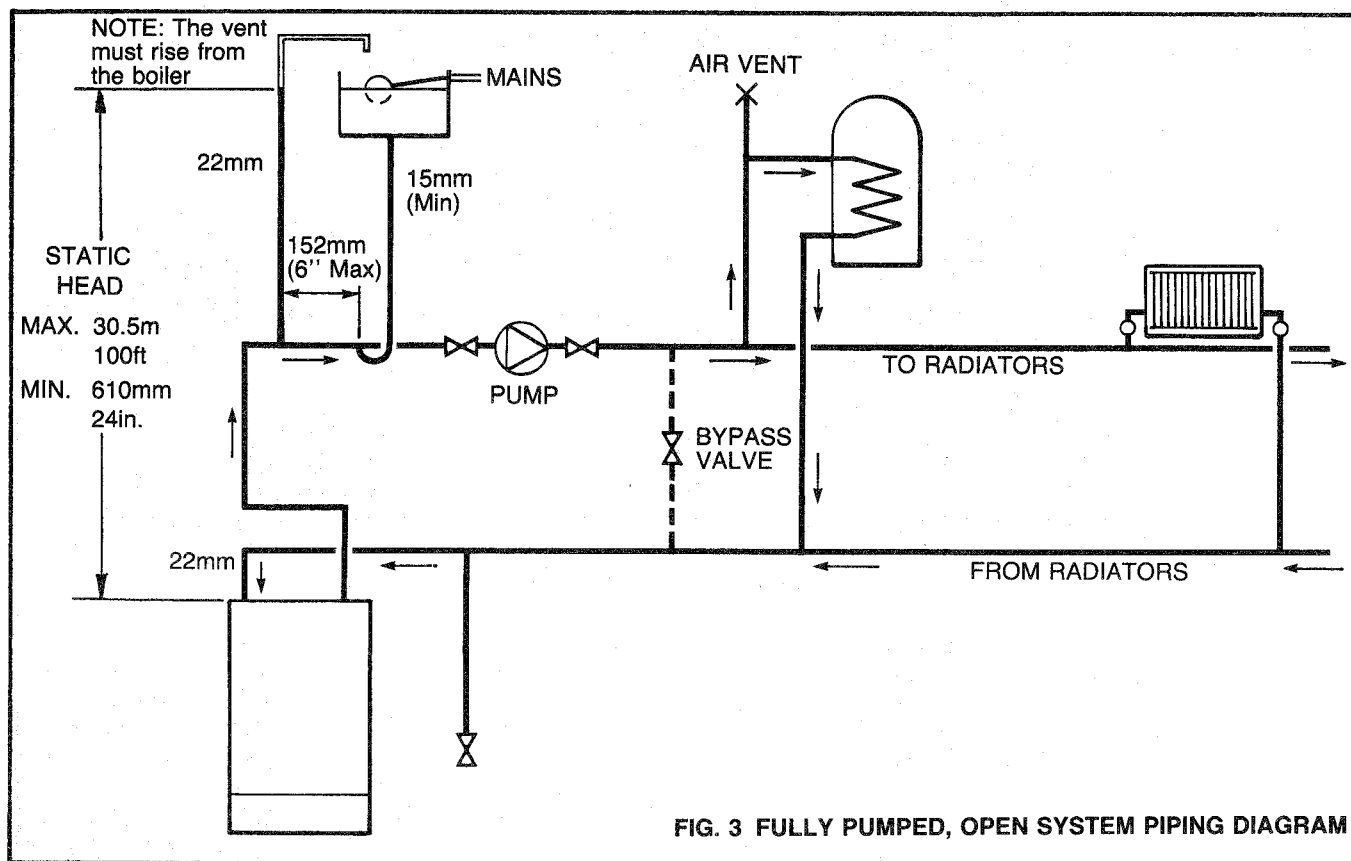

FIG. 3 FULLY PUMPED, OPEN SYSTEM PIPING DIAGRAM
4.3.4 OPEN VENTED SYSTEM ONLY (Fig. 3)